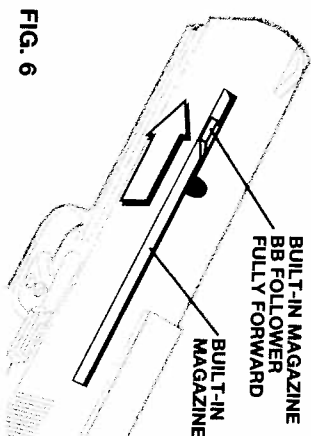

FIG. 6
2. Move the Built-in Magazine BB follower fully forward and hold in position as shown. (see Fig. 6)